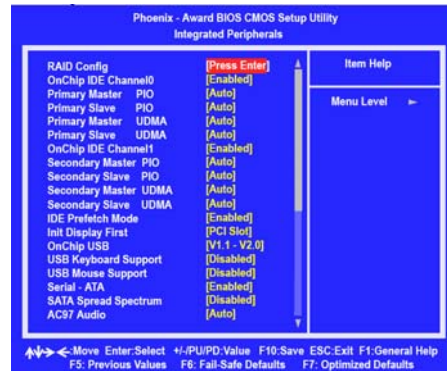

Figure 2.2 Integrated Peripherals Window
- Use the arrow keys to select the RAID Config (see Figure 2.2), then press Enter.